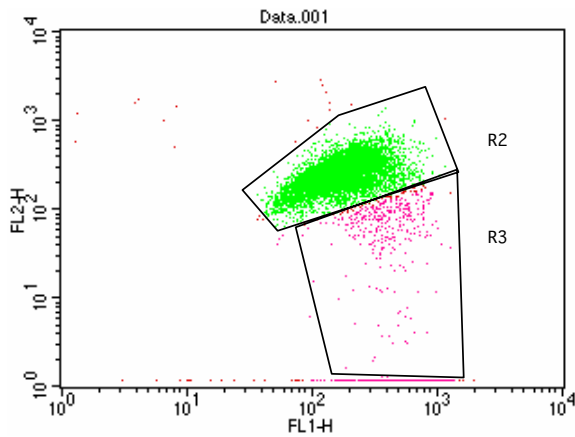

Figure 1: Negative cell control, Log FL1 (X-axis) and log FL2 (Y-axis) R2 = 91.07% R3 = 8.08%.
2. Add two regions, R2 and R3, as shown in Figure 1.
3. Run the negative control sample first (non-induced cells). Adjust the FL1 and FL2 PMT voltages so that the majority of the cell population falls within the upper right hand region. The peak of the dual fluorescent population should fall within the second and third log decade scale of FL1 (X-axis) and FL2 (Y-axis) as seen in Figure 1.
5. Next, adjust R3 so that it falls directly below R2, as in Figure 1.
In Figures 1 and 2, cells were analyzed in a FACS Caliber Becton Dickinson Flow Cytometer. Jurkat cells were either treated with DMSO (negative, non-induced cells) or with staurosporine (apoptotic, induced cells) for 3 hours at 37°C and then labeled with MitoPT[™] JC-1 for 15 minutes. Collapse of the mitochondrial $\Delta\Psi_m$ is indicated by an increase in the number of cells falling into R3 corresponding to a loss of red fluorescence, indicative of the onset of apoptosis or other $\Delta\Psi_m$ depolarizing event. (In these figures of flow cytometer data, non-apoptotic cells are in R2, which prints in green, and apoptotic cells are in R3, which prints in pink.)